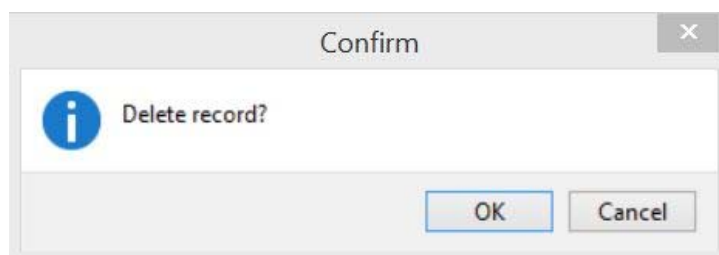

Figure 37
- To delete a unit, click on the  button and the Confirm Delete window will be displayed (**Figure 37**). Click **Ok** to confirm deletion or **Cancel** to keep the record.